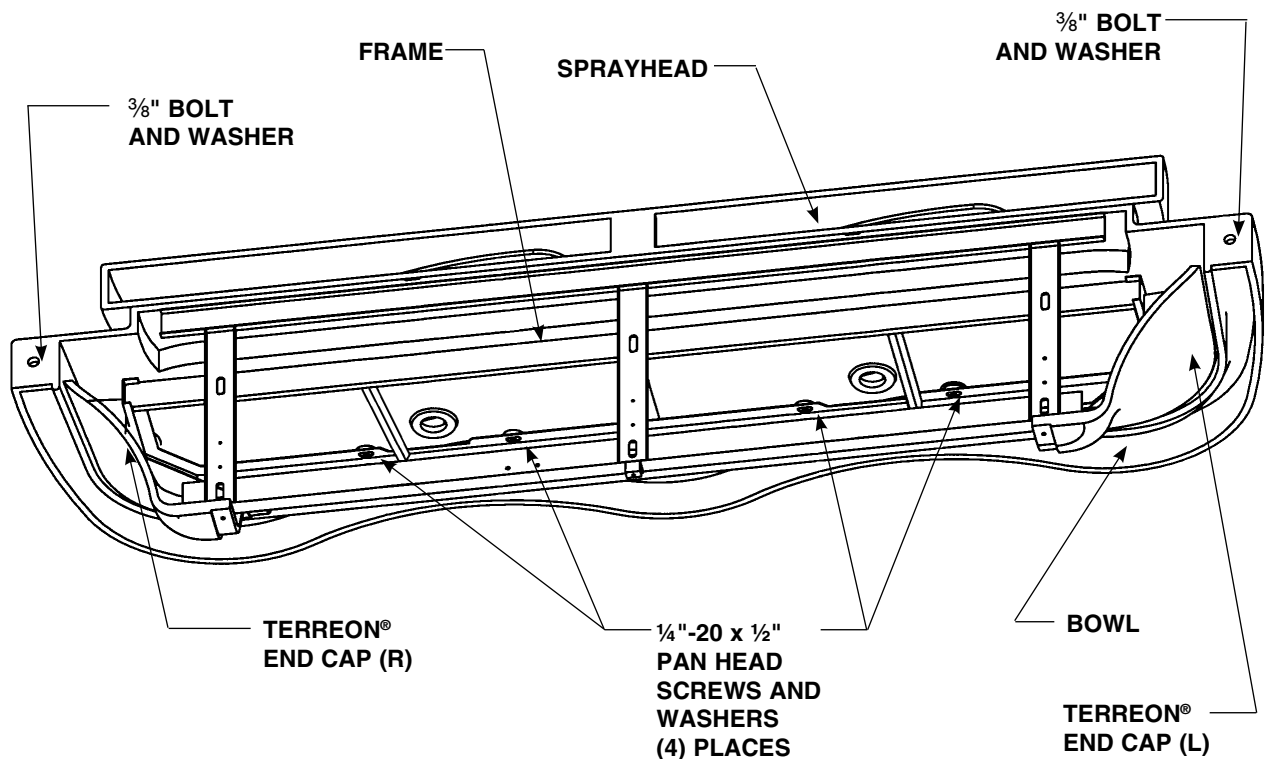

Figure 4
**⚠ IMPORTANT:** See Figure 4 below when installing the bowl assembly. If the fixture has soap option, refer to the soap system installation manual 215-1585 before installing the bowl assembly.